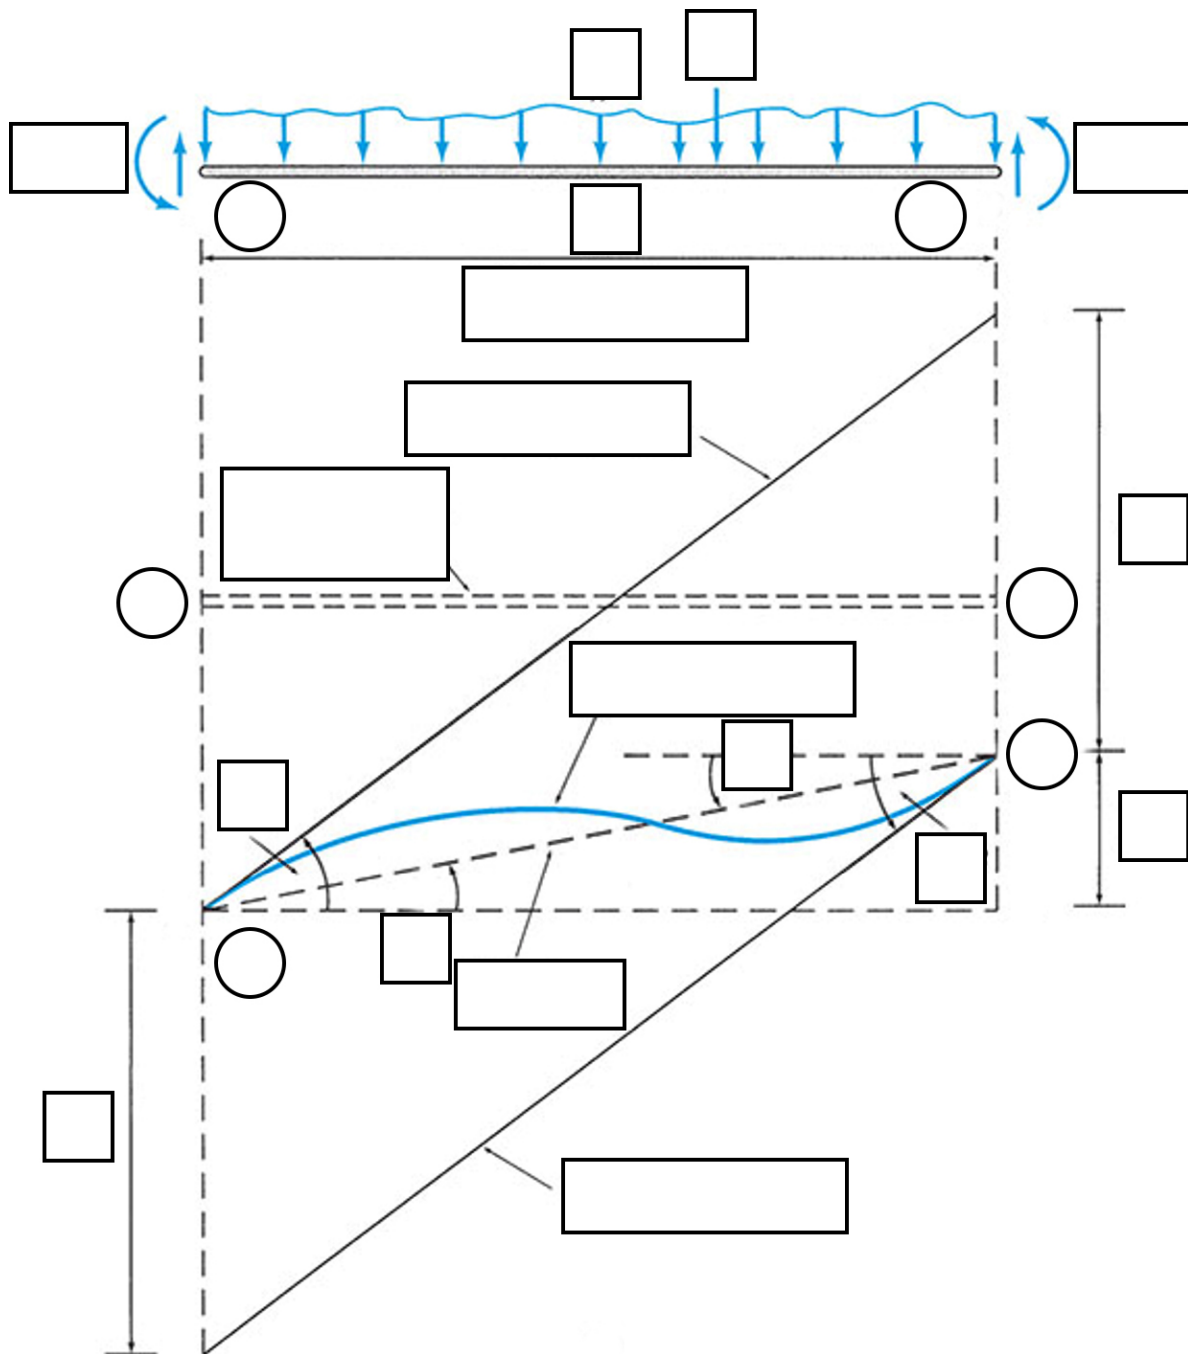

Figure 2. Deformed shape of the continuous beam section.
- 5) The continuous beam section, _____, deforms under _____ (Figure 2).
3) From the geometry shown in Figure 2, **two equations** can be written for the rotation at each end: